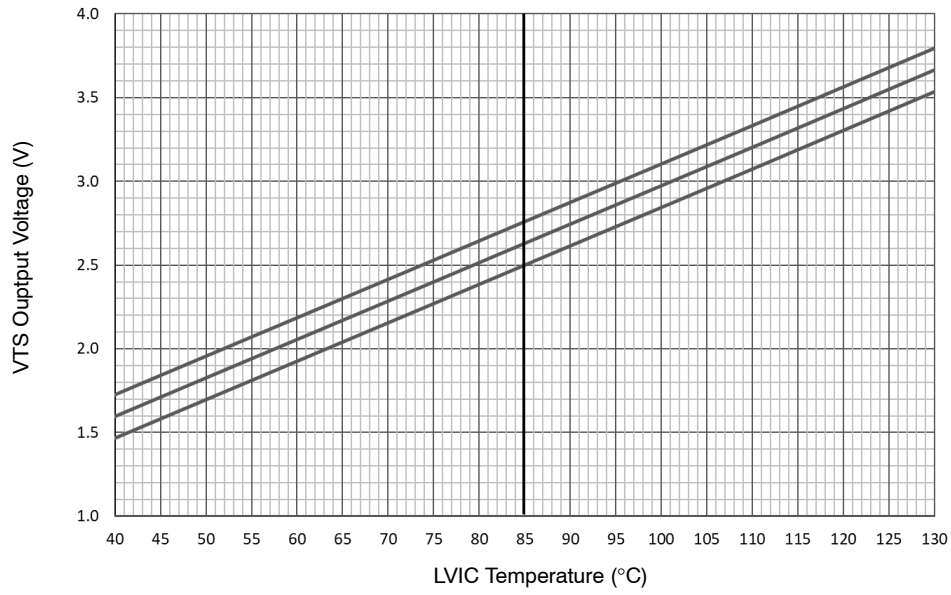
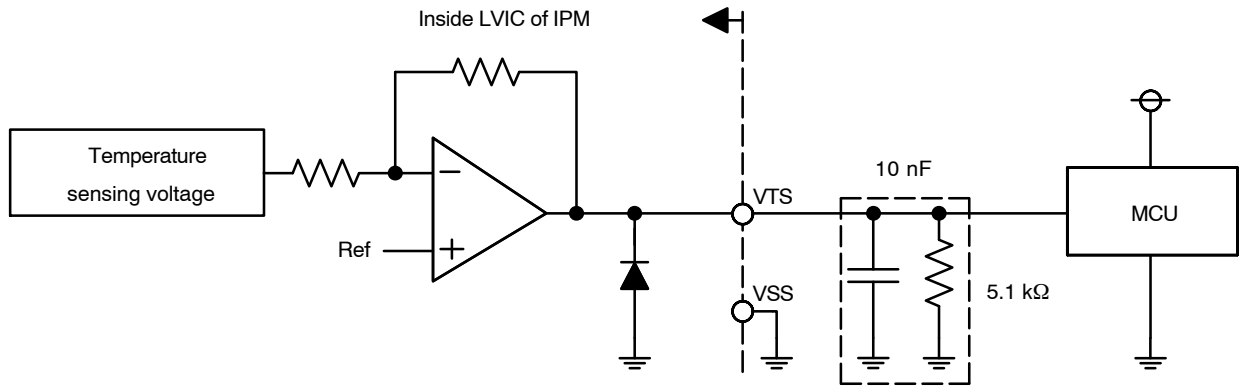

Figure 4. Temperature of LVIC versus VOT Characteristics
Figure 5. Internal Block Diagram and Interface Circuit of VTS
- TLVIC is the temperature of LVIC itself. VTS is only for sensing temperature of LVIC and cannot shutdown IGBTs automatically. The relationship between VTS voltage output and LVIC temperature is described in Figure 4. It is recommended to add 5.1k Ω pull down resistor between VTS and VSS (Signal Ground) as described in Figure 5 for linear output characteristics at low temperature. To reduce noise, 10 nF cap is recommended as well. Refer to the application note for usage of VTS.
To avoid malfunction, the wiring of each input should be as short as possible (less than 2–3 cm). Each capacitor should be mounted as close to the pins of the product as possible. VFO output is open–drain type. This signal line should be pulled up to the positive side of the MCU or control power supply with a resistor that makes IFO up to 1 mA. Please refer to Figure 5.